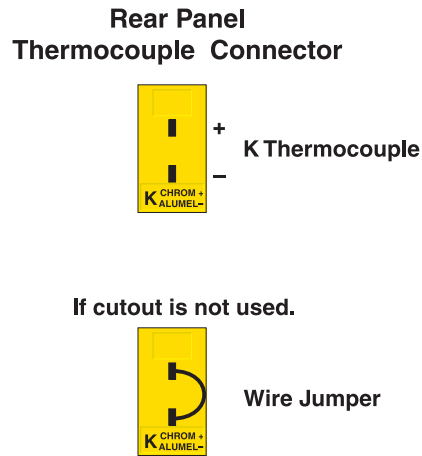

Figure 3. Cutout Probe Connections
Connect the optional thermocouple cutout probe to the back of the controller to the connector labeled “TC”. Insert the probe into the bath or system being controlled. If the safety cutout feature is not to be used then this input must be shorted with a small wire jumper in order for the controller to operate properly (see Figure 3).
(5) The thermocouple cutout probe plugs in here. This probe senses the system temperature for the safety cutout. When the temperature exceeds the cutout set-point the heater is disabled by opening a relay inside the controller. This feature should be utilized for added safety. The thermocouple probe is type K. Probes and connectors are available from Hart Scientific. If the cutout feature of the controller is not used, the thermocouple input must be shorted with a wire jumper in order for the controller to continue to function (see Figure 3).
(6) The optional IEEE-488 (GPIB) interface connector for remote computer control.
(7) The RS-232 communications cable is connected to this 9 pin D-subminiature connector. This enables the controller to be programmed and operated remotely.
(8) The serial number label is located on the bottom of the unit towards the back panel.